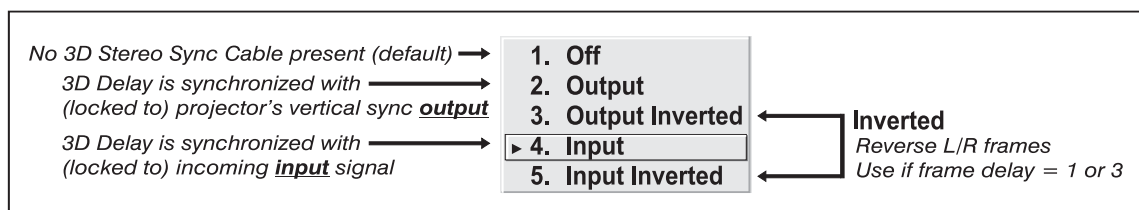

Figure 9. Stereo Sync Locking options
- Specify how the Stereo 3D signal is synchronized by selecting from the dropdown list. Figure 9 summarizes the available options. Refer to table 4.1. Stereo 3D Setup Options for recommended settings for the sample setups.